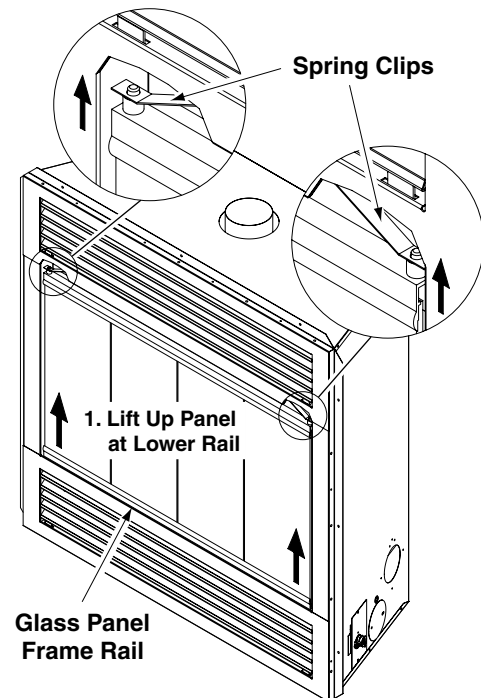

Figure 29 - Removing/Replacing Glass Door
1. Placing a screw driver or your finger tips into the gap between the lower glass panel rail and the bottom face frame, lift the glass door assembly until the door pins clear the locating holes in the bottom face frame (see detail **Figure 29**).